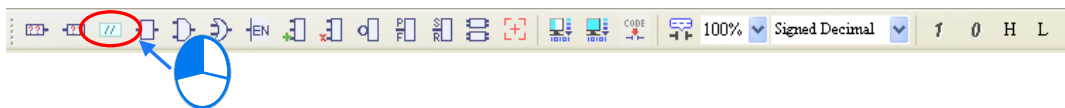

Figure 12-40 Comment
- (1) The users have to click **Comment** on the PMSOft toolbar, as shown in figure 12-40.